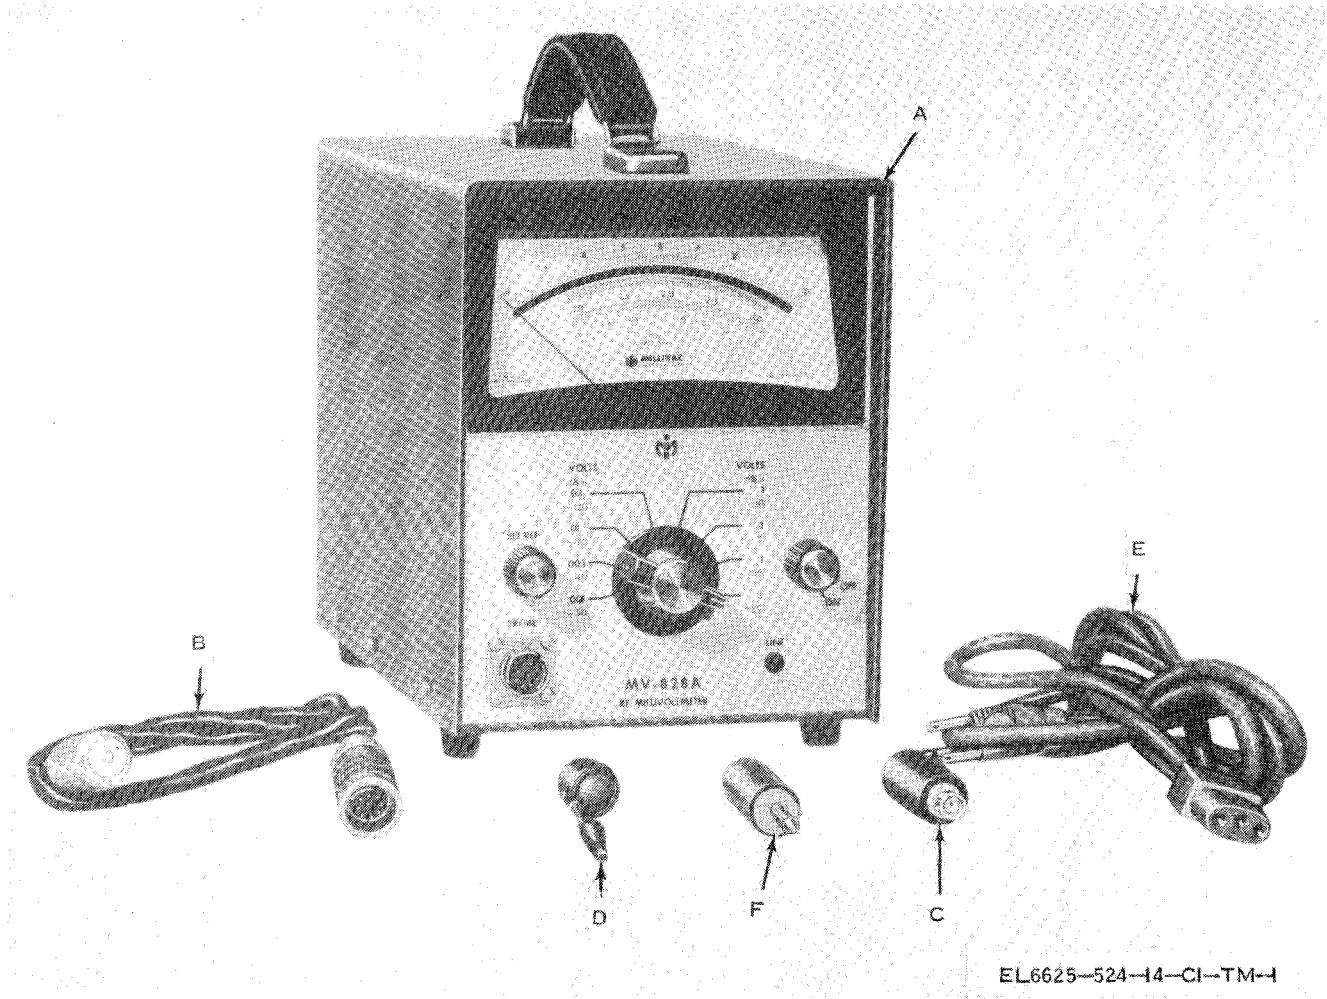

Figure 1-1. Voltmeter, Electronic AN/URM-145B.
This manual describes Voltmeter, Electronic AN/URM-145B (fig. 1-1) and provides instructions for operation and organizational, direct support, and general support (GS) maintenance. Instructions are provided for the operator and the organizational maintenance personnel for installation, operation, preventive maintenance, and replacement of parts available at organizational maintenance. Circuit functioning is included for general support maintenance, together with instructions appropriate to this category of maintenance for troubleshooting, testing, adjusting, aligning and repairing the equipment and replacing maintenance parts.